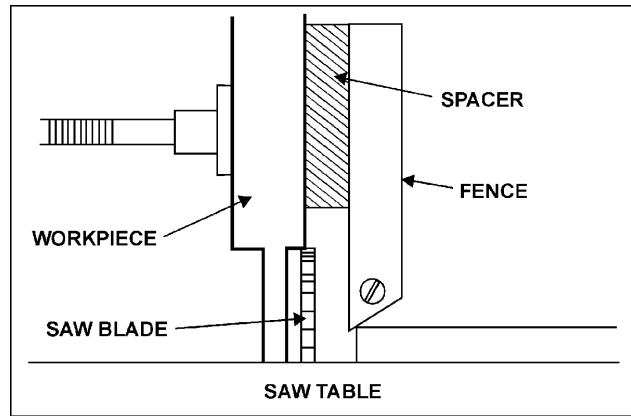

Figure 9
- If it is necessary to cut a tenon on the side of the workpiece that is against the fence, a wood spacer must be secured between the workpiece and the fence, as shown in Figure 9. This will keep the saw blade from hitting the fence.